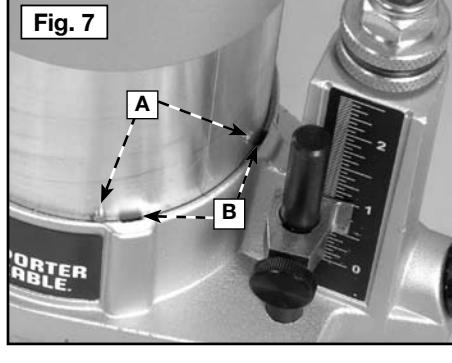

Fig. 7
2. Insert the motor unit into the base with the switch positioned at the front of the left handle. Align the four pins (A) Fig. 7 (two of which are shown) in the motor case with the slots (B) Fig. 7 in the base.